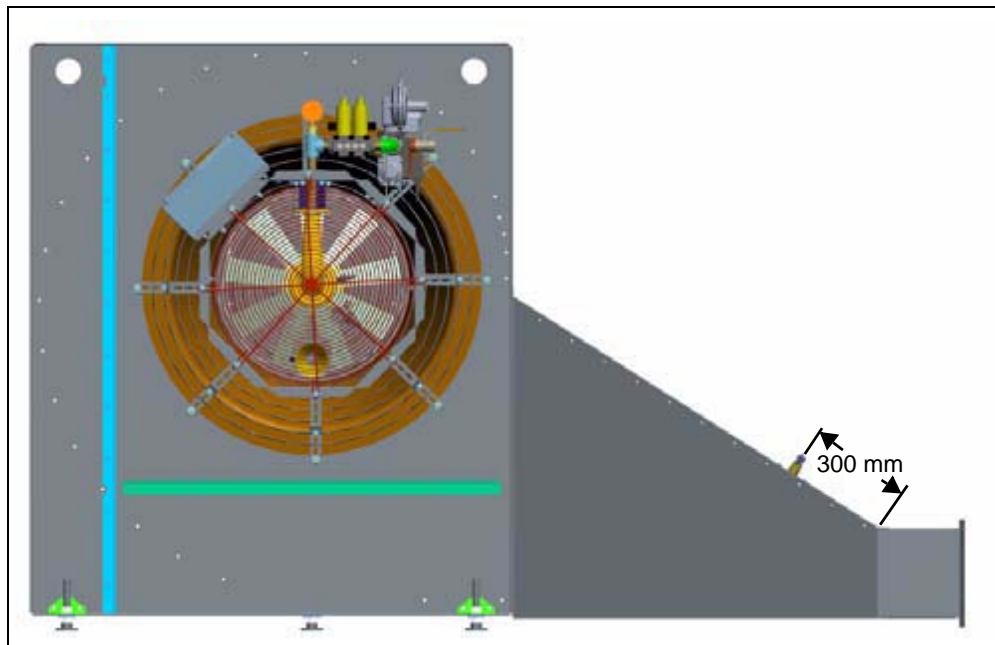

Figure 4G
1. Cut 30 mm diameter hole centrally on transition duct, 300 mm from bottom. *(See Figure 4G.)*